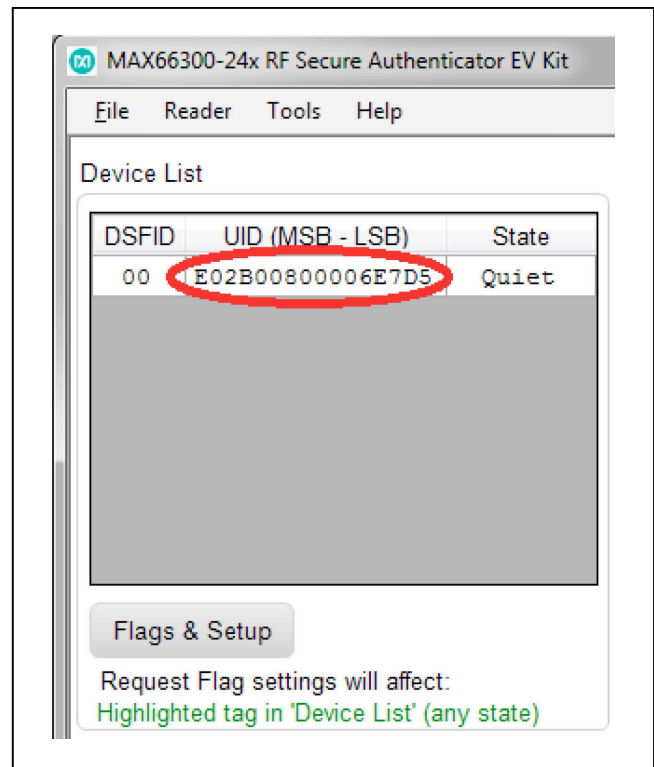

Figure 39. Device List
- 2) Confirm the UID number in the display of the **Device List** group box appears (Figure 39). **Note:** The MAX66242 tag's upper 36 bits are fixed at E02B00800h. Note: If the UID number does not show, then improve the reader distance by changing setting open the VOUT JB1 jumper (pins 13 and 14) of Figure 8 that disconnects harvesting energy to power the green LED.